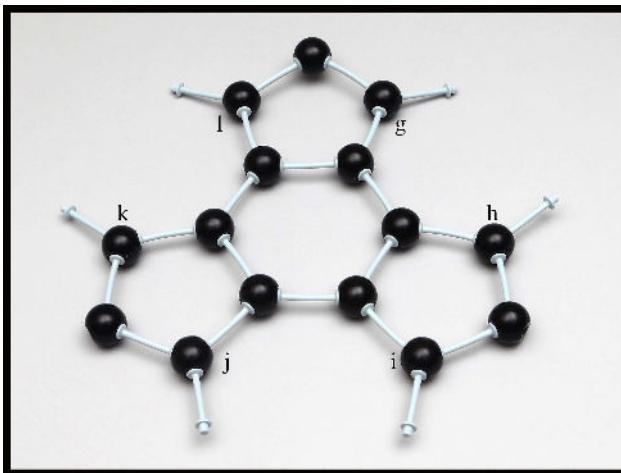

Fig. 3 Atoms g, h, I, j, k, and l with attached connectors.
3. Insert grey connectors into atoms g, h, i, j, k, and l. (Fig. 3).